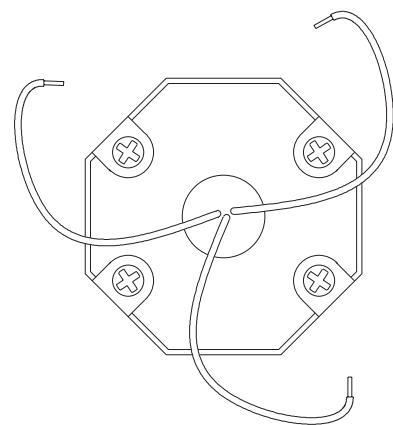

Figure 3
3. Mount either an octagonal or square junction box (not supplied) to wall (recessed or surface). See Figure 3.